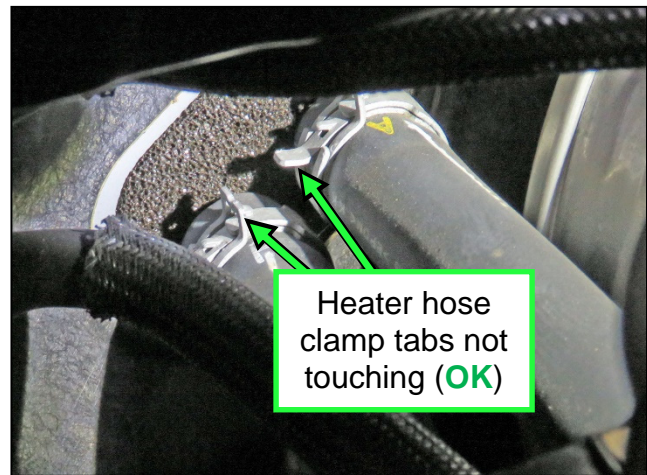
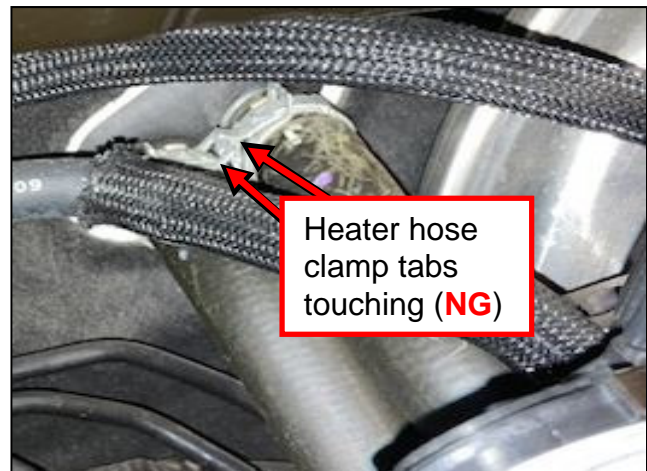

Figure 1
Figure 2
2. Inspect the orientation of the heater hose clamps (Figure 1 and Figure 2).